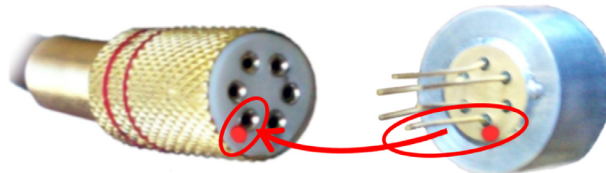

Fig.4. Observance of polarity during the connection between the LED and the LED connector (1).
1. Please take a LED with a cooler (termocooler). Carefully combine its many-colored wires with pins of connector “LED” (1) tightly till fixation (fig.4).
Note! Marked with the red point pin of connector “LED” must be connected with the appropriate red wire of the LED (fig.4). In the case of wrong junction the LED can be damaged.